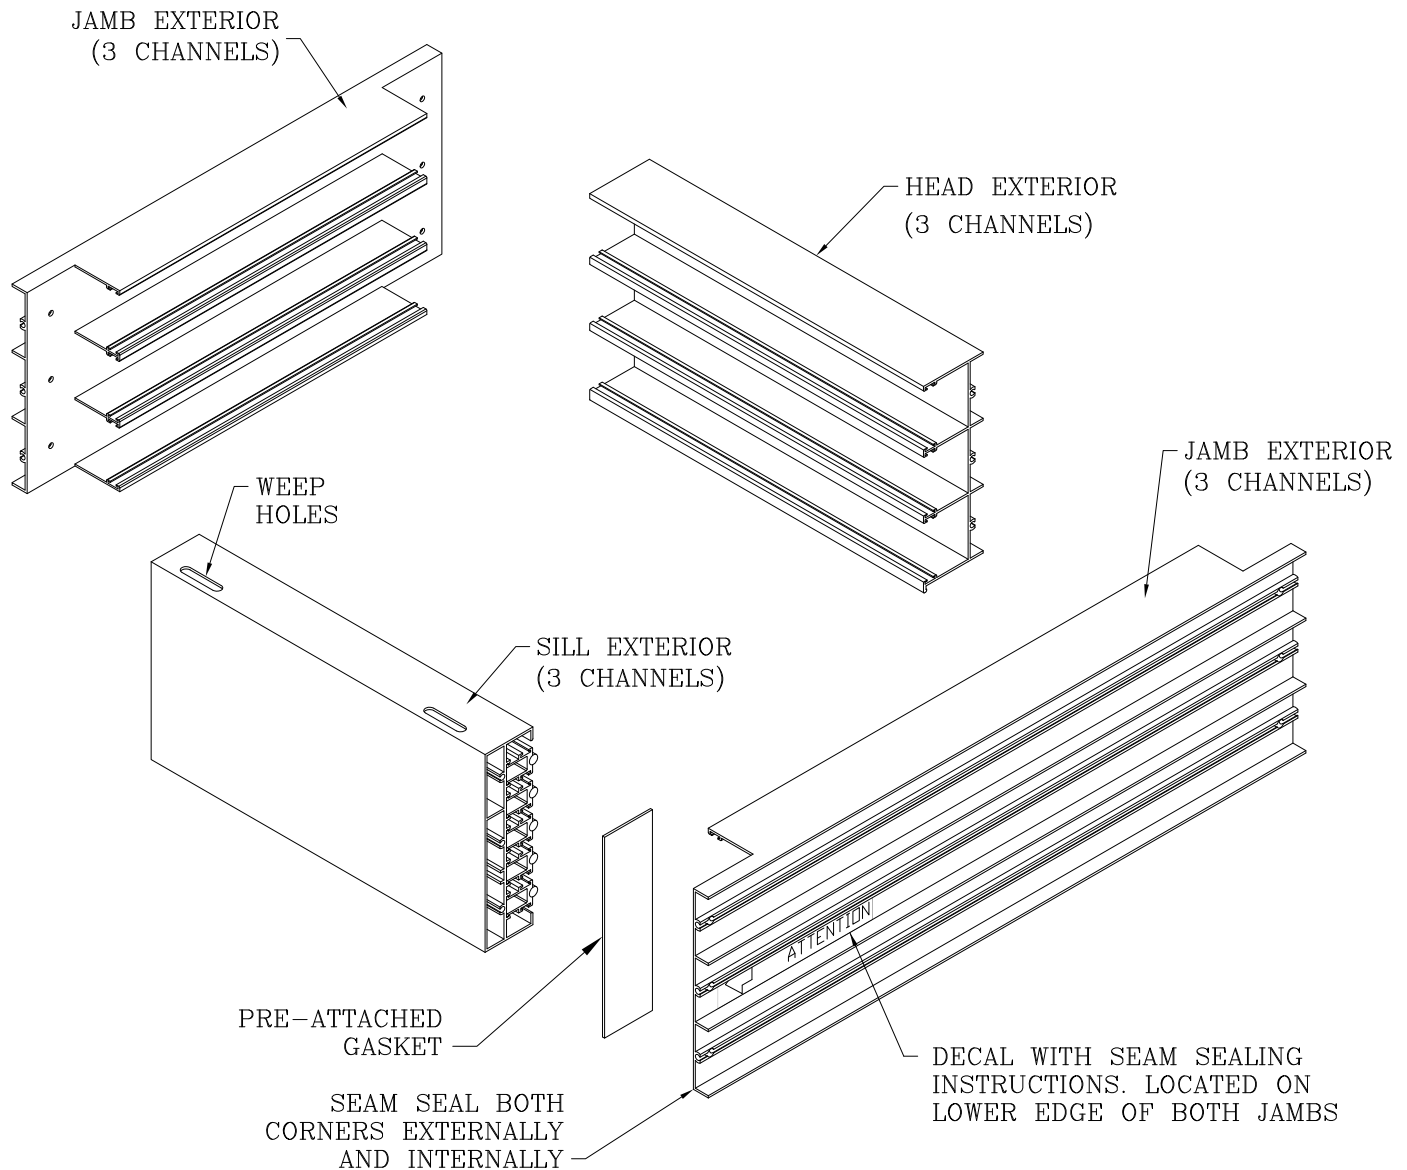

Fig 2-A
2. Assemble perimeter frame head, jamb and sill by using eight #8x1" pan head screws provided (Fig 2-A).